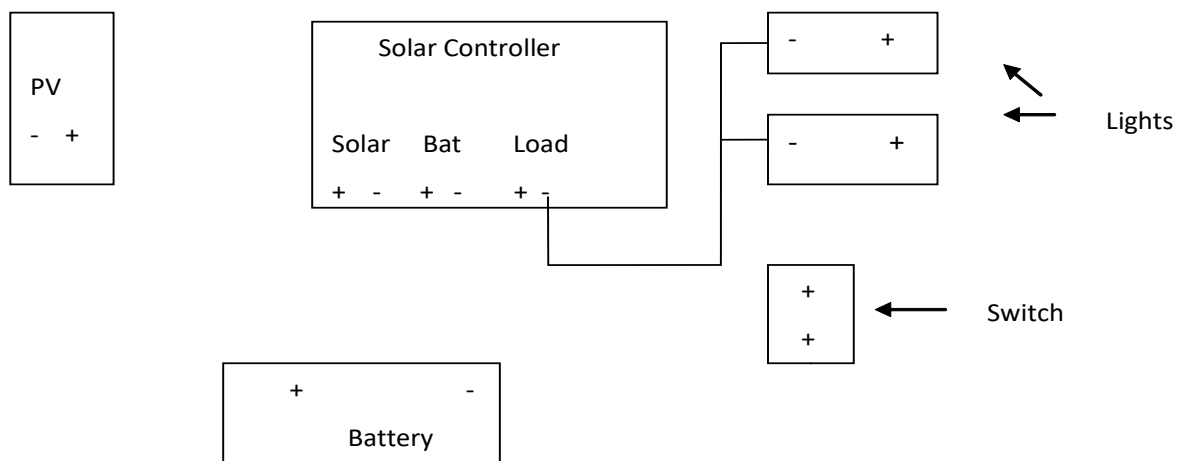

Figure 3: Wiring Diagram of 1 module 2 lights Solar Home System
- Q19 Complete the wiring diagram of a Solar Home System (SHS) figure 3 below by joining the correct connecting terminals.